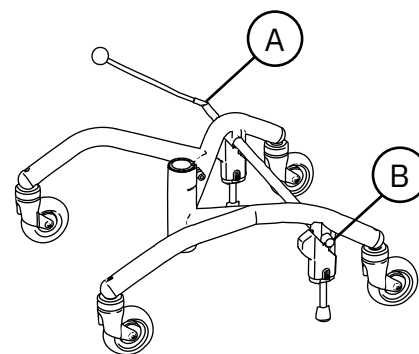

Figure 5.40. Brake lever.
The brake lever can be placed on the right (A) or left (B) side of the base (see Figure 5.40).